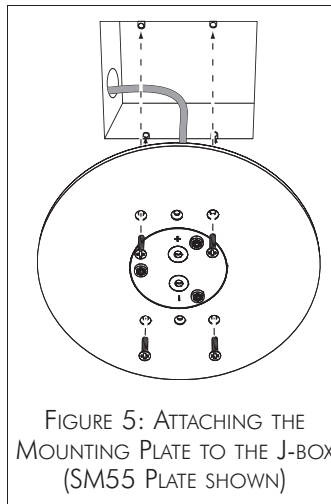

FIGURE 5: ATTACHING THE MOUNTING PLATE TO THE J-BOX
3. Use the 1½" x 6-32 flat head screws included with the Mounting Plate to attach it to the J-Box. (See Figure 5.)